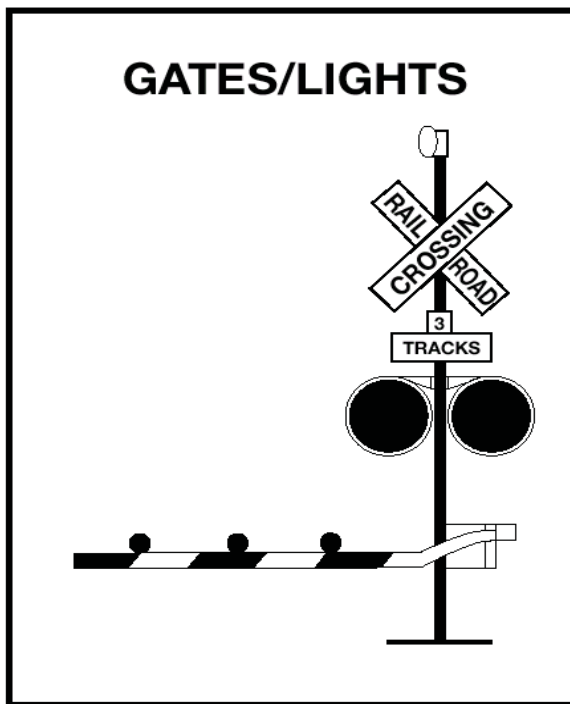

Figure 10.8
**Flashing Red Light Signals.** At many highway-rail grade crossings, the crossbuck sign has flashing red lights and bells. When the lights begin to flash, stop! A train is approaching. You are required to yield the right-of-way to the train. If there is more than one track, make sure all the tracks are clear before crossing. See Figure 10.8.
**Gates.** Many railroad-highway crossings have gates with flashing red lights and bells. Stop when the lights begin to flash and before the gate lowers across the road lane. Remain stopped until the gates go up and the lights have stopped flashing. Proceed when it is safe. If the gate stays down after the train passes, do not drive around the gate. Instead, call your dispatcher. See Figure 10.8.